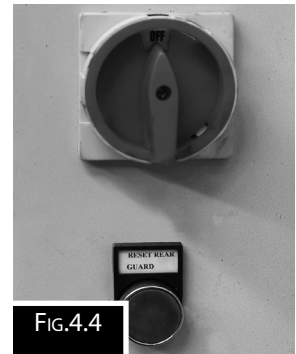

FIG.4.4
**A. Isolating Switch.** Main power supply switch mounted on the back of the electrical cabinet. (Fig.4.4)
**B. Safety Reset Button.** This button resets the safety circuit after the rear safety beam has been broken. (Fig.4.4)